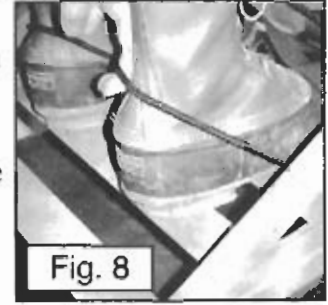

Fig. 8
**Step 2.** Loosen the footstrap assembly by releasing the spring lever buckle and sliding the green webbing through it until you have plenty of room for your boot to fit it. Step onto the treestand, placing one foot in each foot strap and tighten the strap over your boots by pulling on the free end of the green strap. **YOU MUST** pull the elastic heel cord around the back of your boot, as shown in Figure 8. At this point **IT IS**